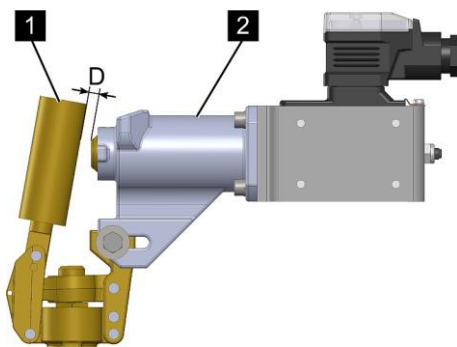

Fig. 111: Aligning the EM release device
10. ➤ Align the EM release device in such a manner that the distance between release pin (Fig. 111/1) and valve lever is (Fig. 111/2) 3 ± 1 mm.